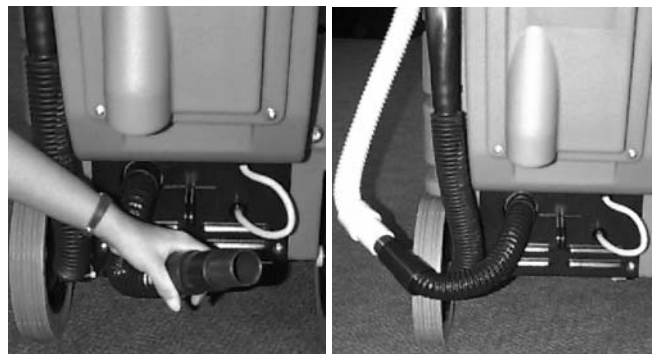

FIG. 16
2. Disconnect exhaust hose from rear of machine and connect it to vacuum hose (Figure 16).